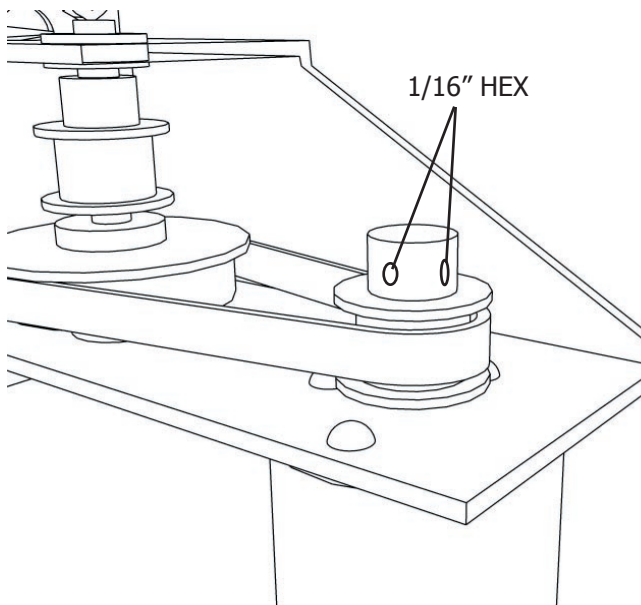

Fig. 4 - Motor gear setscrews
- 1) Loosen the two (2) 1/16" HEX screws located on the motor gear. See Fig. 4